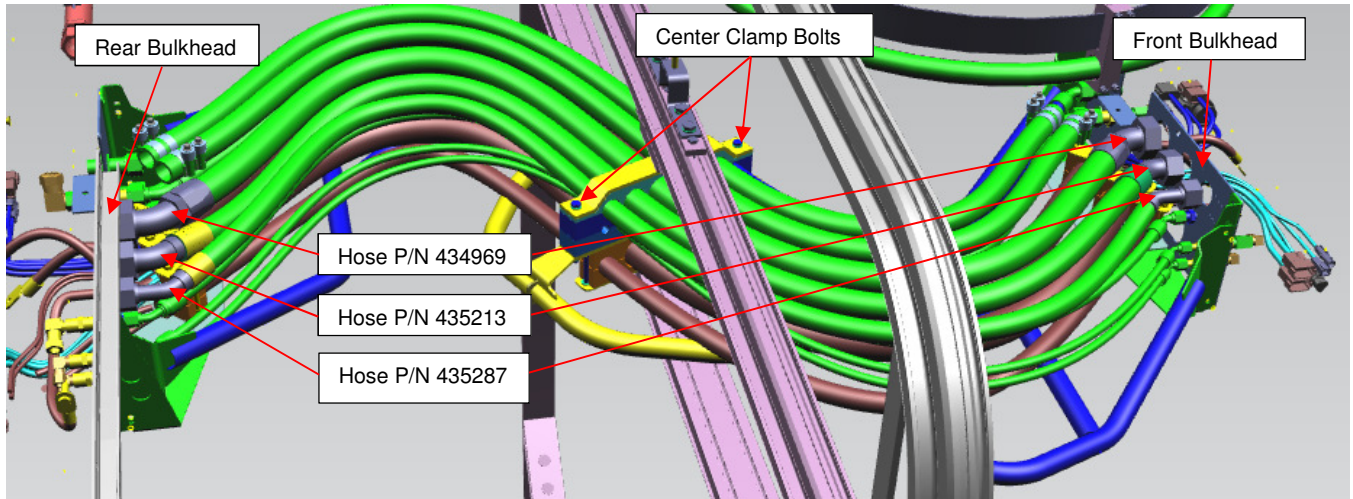

Figure 3: Artic Joint Hoses Viewed from Above.
17. At the forward bulkhead, reconnect the hoses to their respective connection points. Note that there are alignment marks on the bulkhead for orienting hose P/N 435213 & P/N 435287. Figure 3.